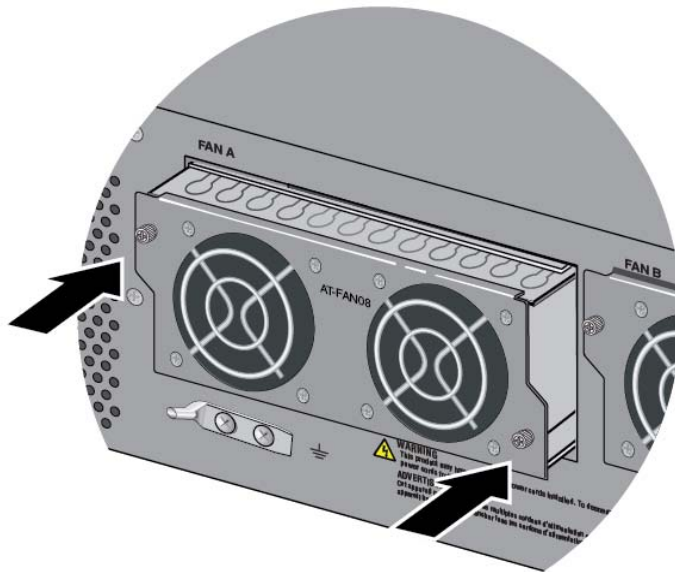

Figure 125. Seating the FAN08 Module on the Connector in the Chassis
2. When you feel the module make contact with the connector inside the chassis, gently press on both sides to seat the module on the connector. Refer to Figure 125.